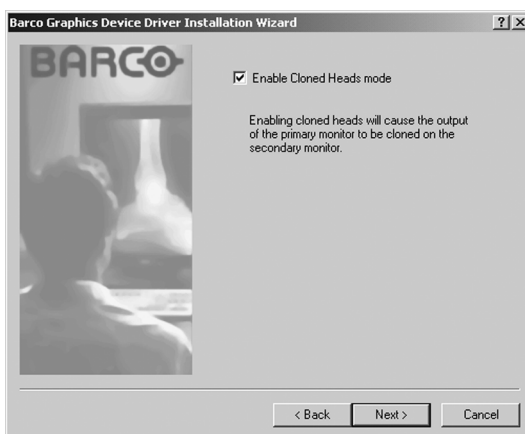

Figure 17
9. When the screen shown in figure 17 below appears decide if you want the driver to install with Cloned Heads mode enabled or disabled then click **"Next"**.